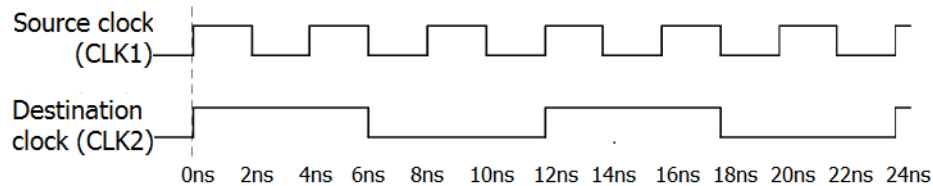

Figure 6-21: Multicycles Between FAST-to-SLOW Clocks
In the next example, the launch clock CLK1 is the fast clock. The capture clock CLK2 is the slow clock. Assume that CLK1 is three (3) times the frequency of CLK2. See Figure 6-21, Multicycles Between FAST-to-SLOW Clocks.